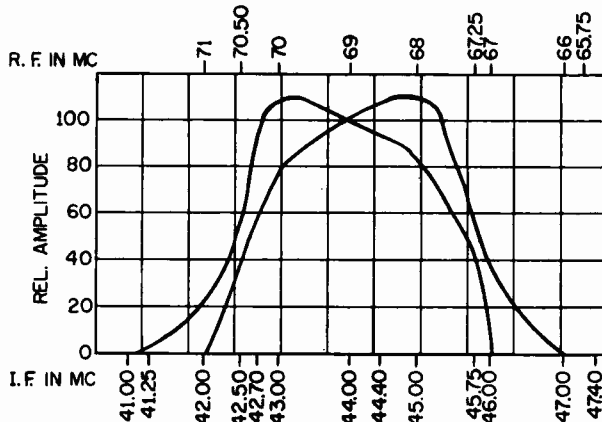

Fig. 2. Overall R-F I-F Response Curve
- (1) Inject 65.75 MC AM, 30% modulated, into antenna. Adjust fine tuning control for minimum output. Do Not Disturb fine tuning during balance of adjustments.
- (2) Inject channel 4 sweep signal (69 MC with 6 MC sweep width) into antenna. If necessary, adjust the following cores to bring the curve within limits (see curve figure 2).